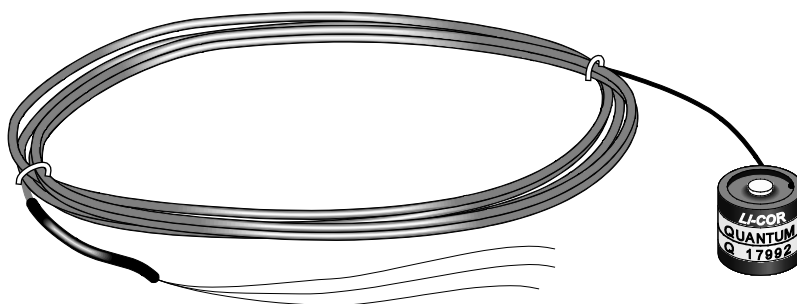

FIGURE 5-2. LI190SB Quantum Sensor with -PT cable termination option
- Pigtails that connect directly to a Campbell Scientific datalogger (cable termination option -PT; see FIGURE 5-2).